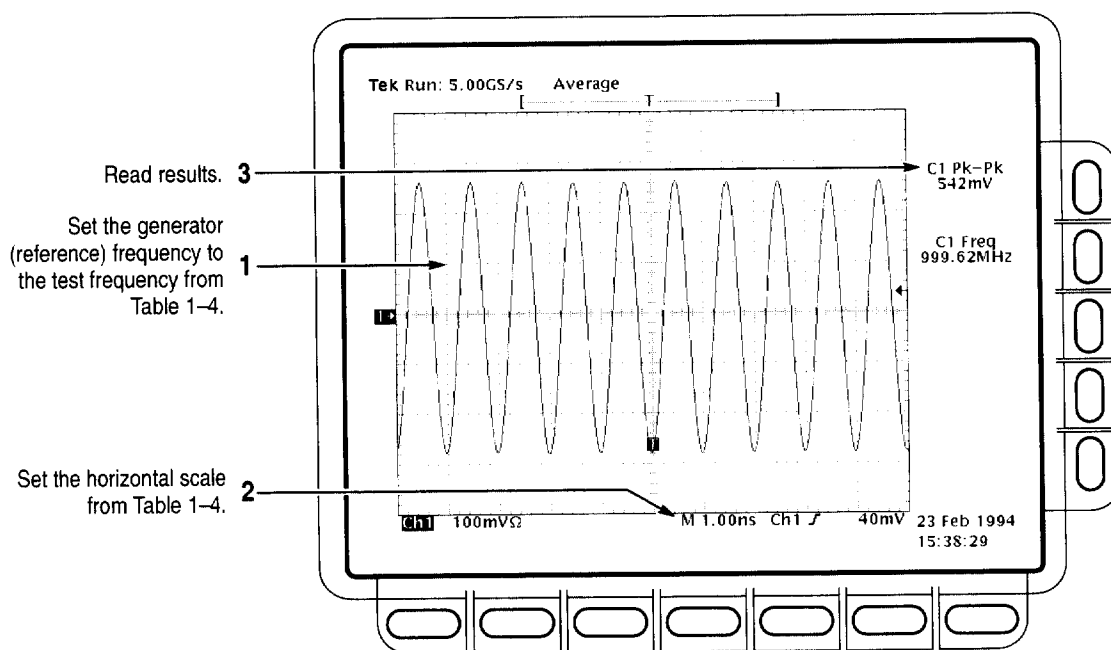

Figure 1-9: Measurement of analog bandwidth
- Set the frequency of the generator, as shown on screen, to the test frequency in Table 1-4 that corresponds to the vertical scale set in substep **d**. See Figure 1-9.
- Read the results at the CHx Pk-Pk readout, which will automatically measure the amplitude of the test signal. See Figure 1-9.